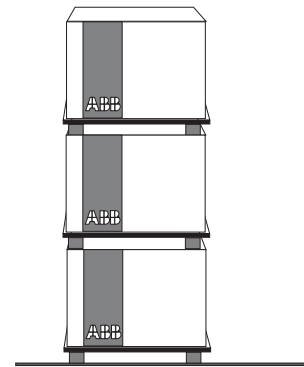

Fig. 6
- The maximum number of stackable circuit-breakers is indicated in figure 6